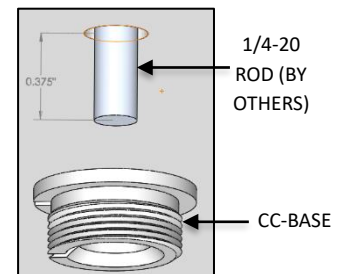

FIG. 9 - GRID CEILING
- Add a light thread locking compound to the 1/4-20 ROD (by others). Then thread CC-BASE to 1/4-20 ROD protruding through the ceiling material as shown in FIG. 9.